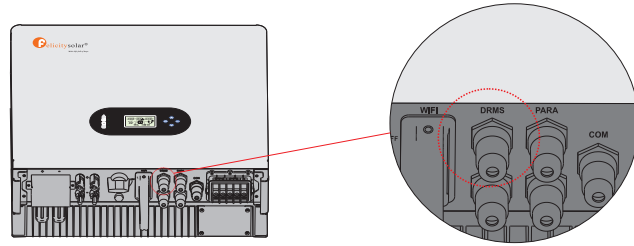

Figure 4.5-1 DRMS interface
**Step 1.** Screw this plate off from the inverter. See Figure 4.5-1.